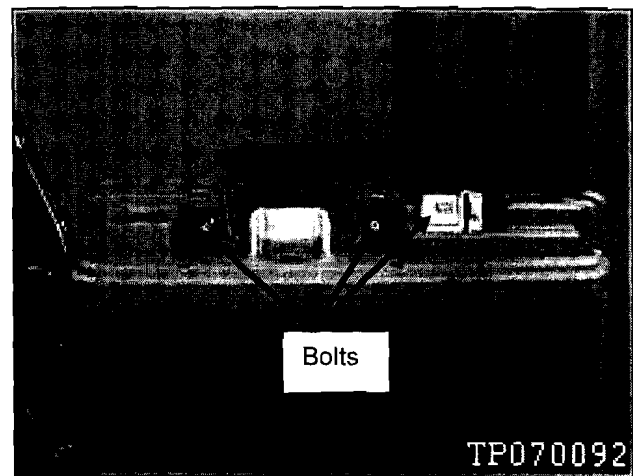

Figure C40
32. Remove the 3 bolts shown in Figure C40.